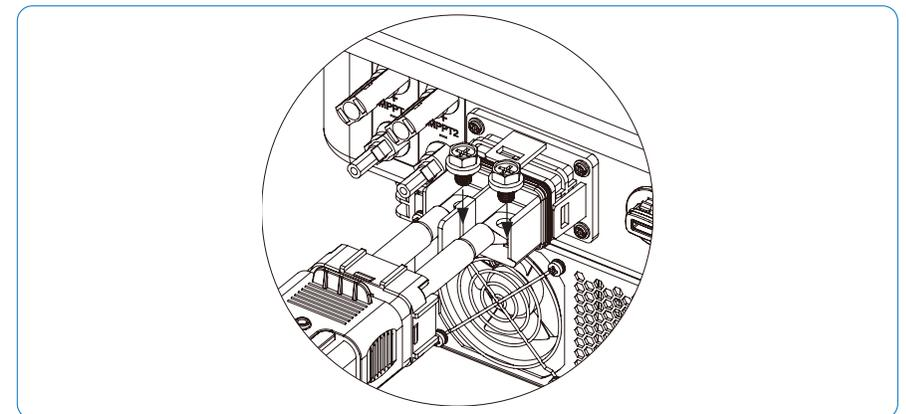

Figure 5-19
- 5) Connect the prepared OT terminals to the battery port. After confirming that it is installed properly, use a cross-head screwdriver to tighten the OT terminal screws (torque 5~6N·m), as shown in Figure 5-19: